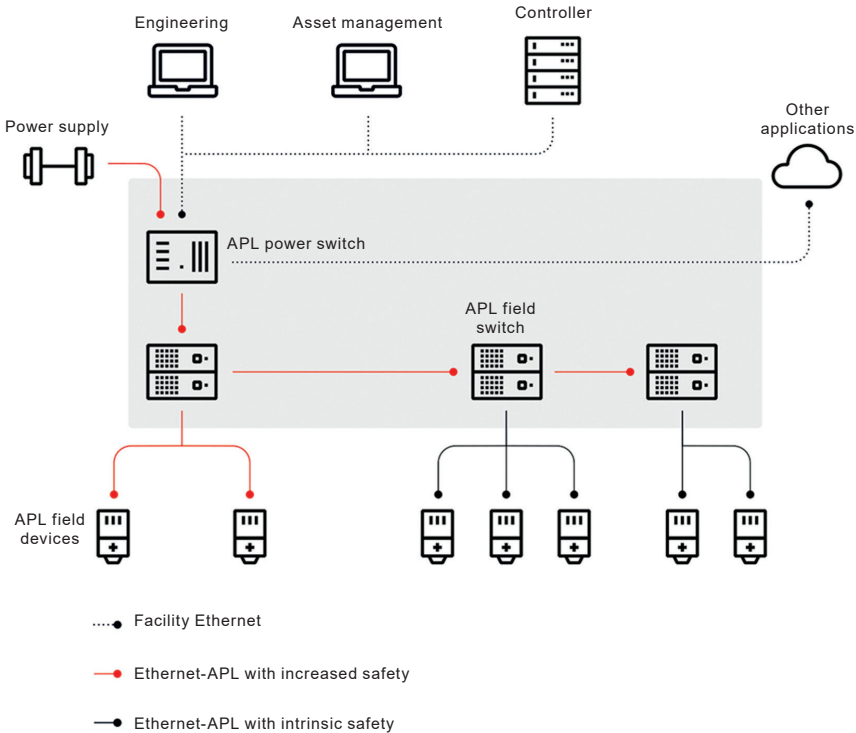

Fig. 32 Exemplary Ethernet-APL topology
- Connect the wires to the corresponding terminals (see Figure 32).